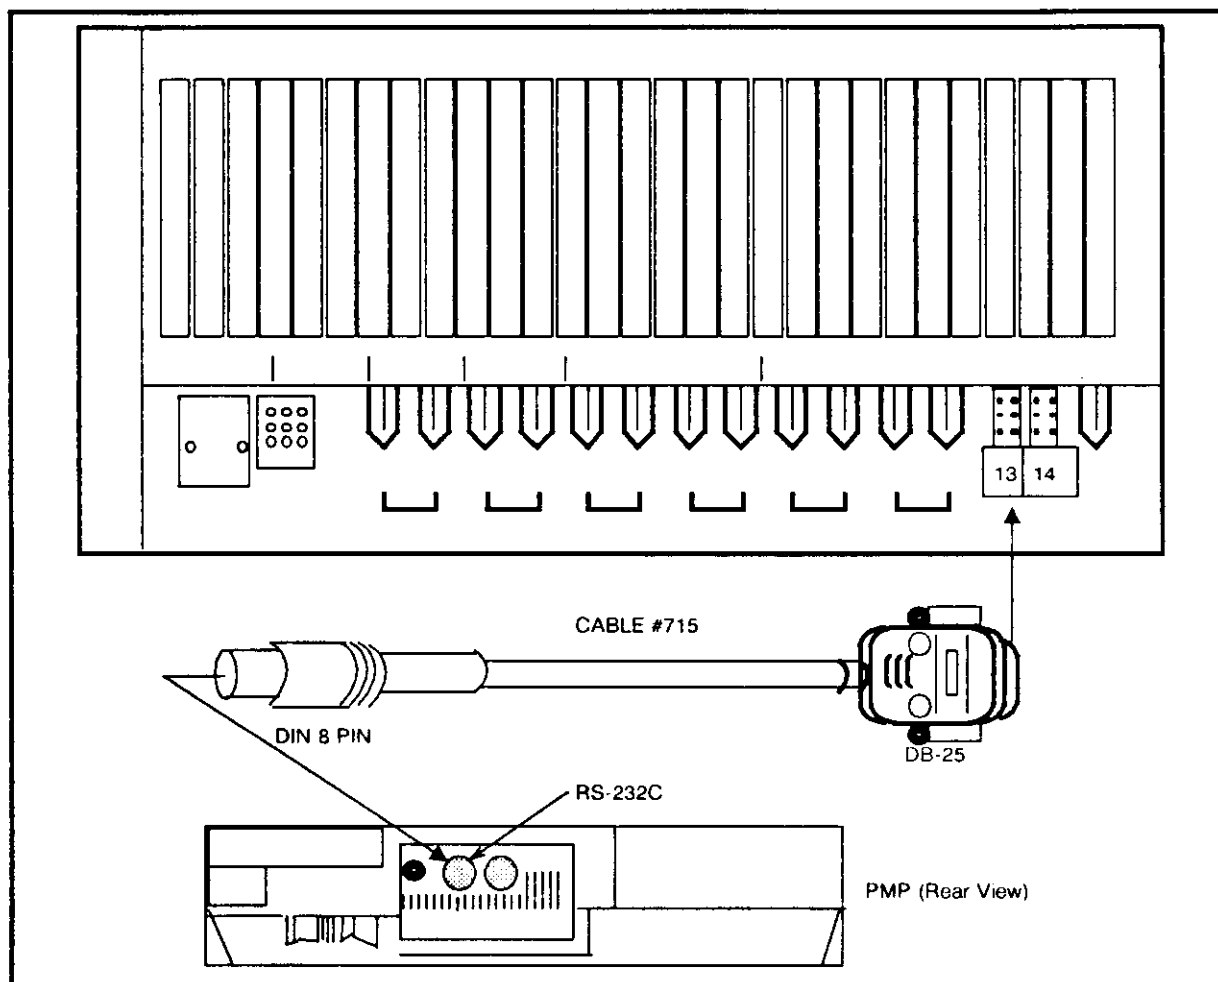

Figure 2.7 PMP/Equipment Cabinet Connection
2.2.1 To install the PMP (Figure 2.7):